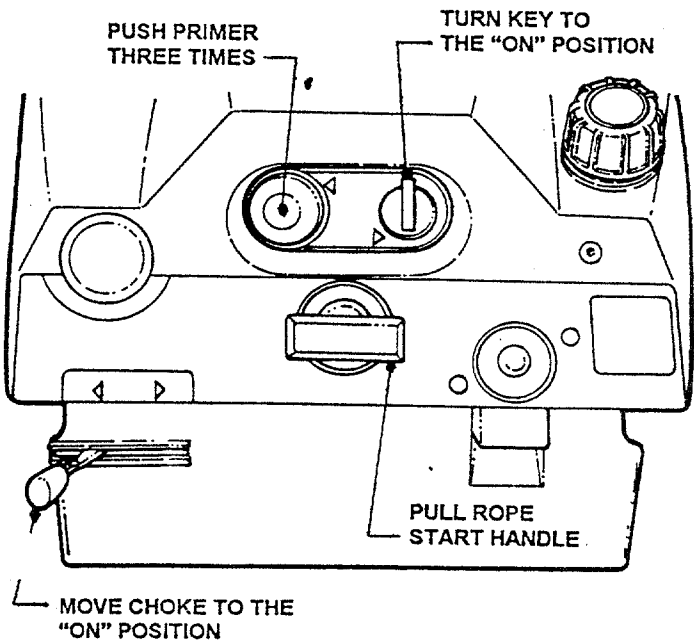

FIGURE 2.4
1. Move choke control to the choke "ON" position. See Figure 2.4.